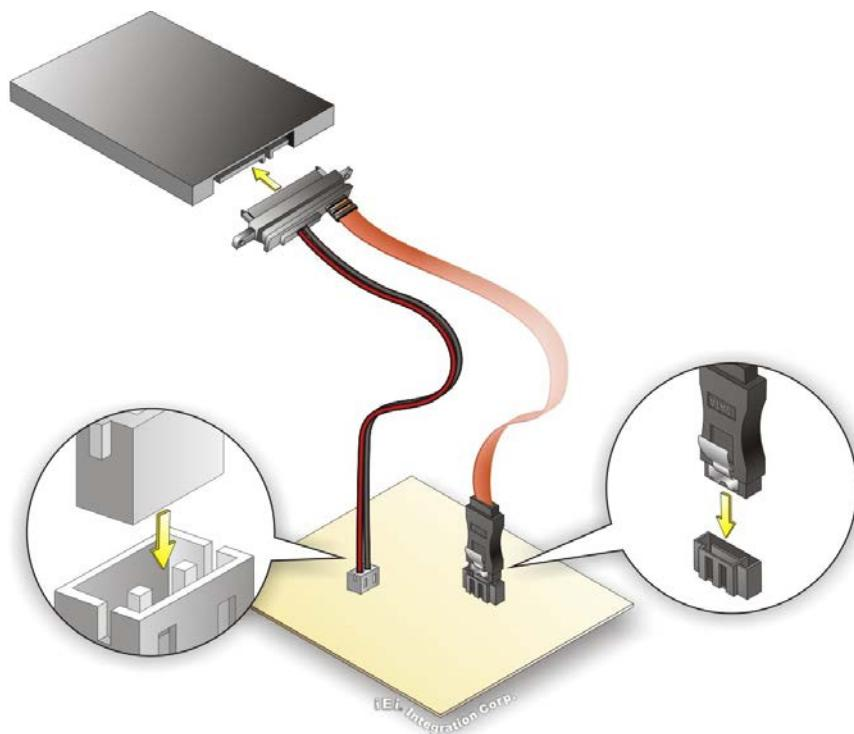

Figure 4-7: SATA Drive Cable Connection
Step 2: **Insert the cable connector.** Insert the cable connector into the on-board SATA drive connector and the SATA power connector. See Figure 4-7.
Step 3: Connect the cable to the SATA disk. Connect the connector on the other end of the cable to the connector at the back of the SATA drive. See **Figure 4-7**.